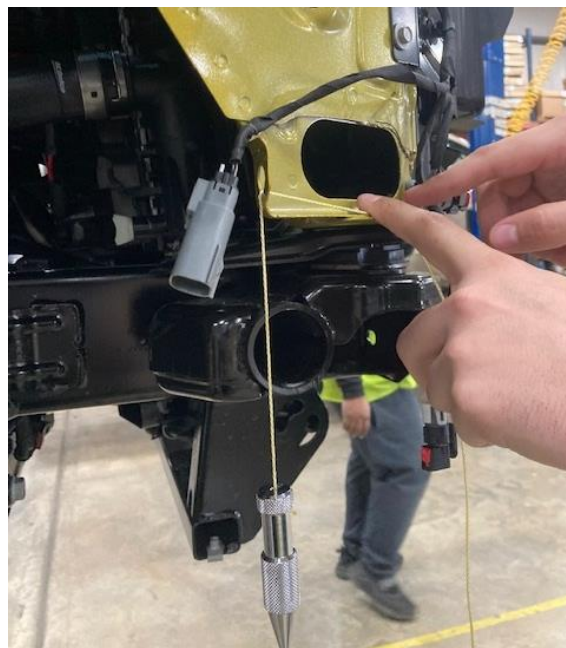

Figure 3 – Passenger Side Plumbbob
Step 2 – Constrain plumbbob until gravity is only acting force on string through bottom of body-mounted hole – Fig 3.